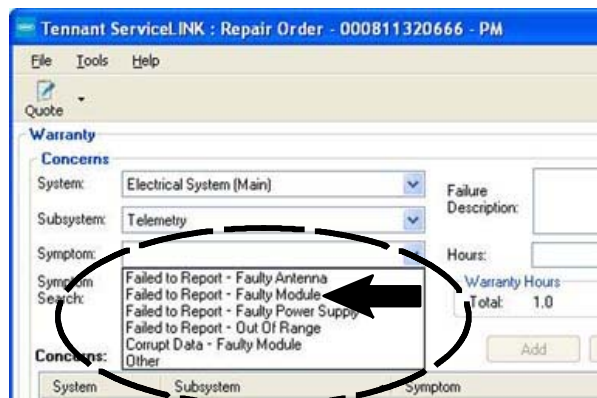

FIG. 3
8. Complete the repair order. Select **Failed to Report - Faulty Module** from the **Symptom Search** pull down menu. Include the machine model number and serial number. (Fig. 3)